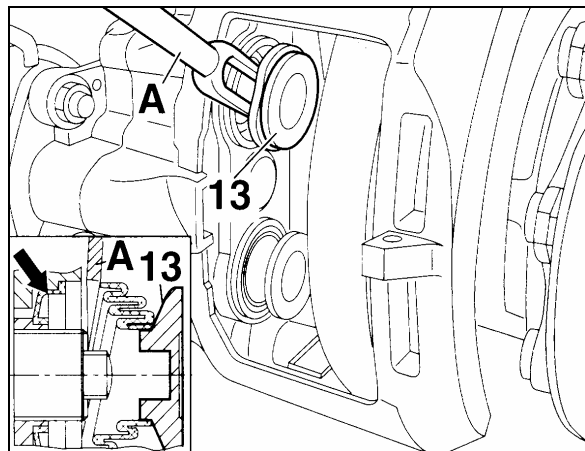

FIGURE 35: RUBBER BOOTS 12115
- a) The rubber boots (13, Fig. 35) should show no damage, check the attachment.